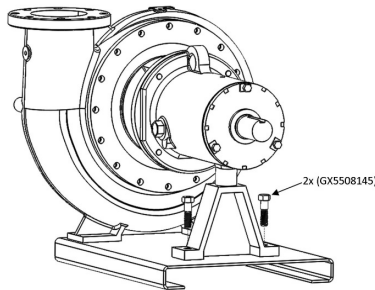

Figure 3: Step 2 illustration
2) Attach the bearing frame assembly to the steel base using (2) 3/4-10 x 2.75 UNC bolts (GX5508145) as shown in Figure 3 and the corresponding nuts, washers, and lock washers.